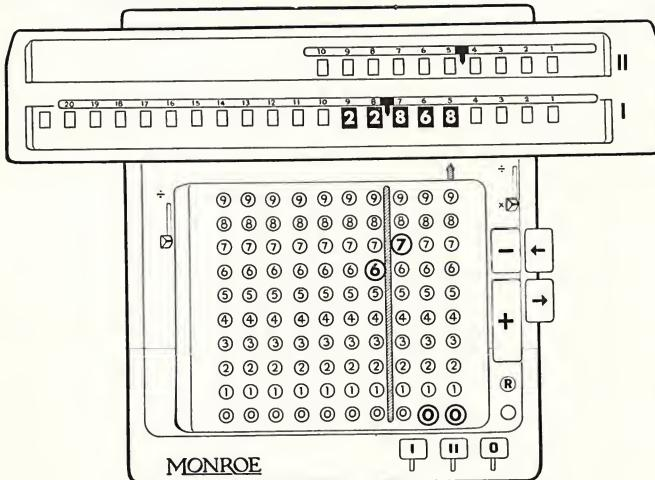

Figure 11
*Step 6*—Set 6.7 on the keyboard so that it appears as 6.700. With the carriage in "5" position push divide lever (Figure 11).